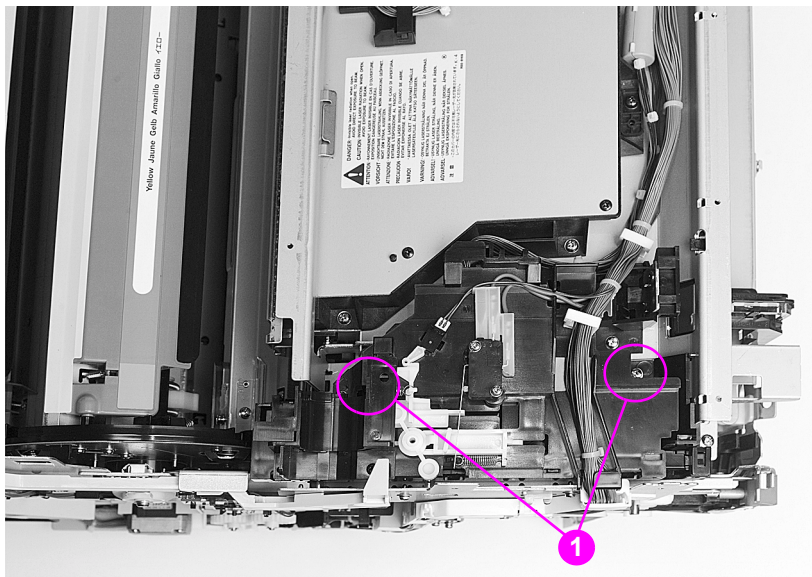

Figure 6-19 Top cover switch assembly removal and replacement
- 3 Remove the two screws that secure the switch assembly and lower cable guide to the printer frame (callout 1, Figure 6-19 on page 162).